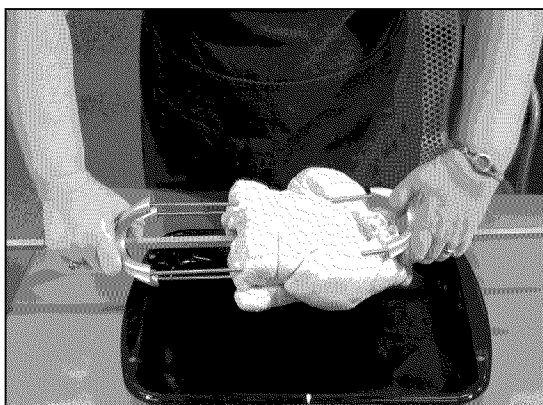

FIG. 36
2. Center tied meat/poultry on the rod, place second prong, turn 'L'- shape screw to tighten. (Fig. 36)